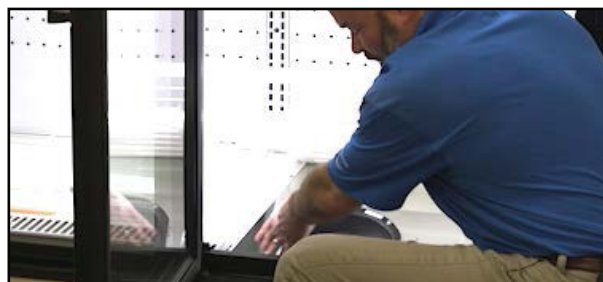

Fig. 95 Check pump operation
5. Confirm the pump is operating by pouring a container of water, large enough to fill the pump reservoir, down the case drain under the deck pans (Fig. 95).